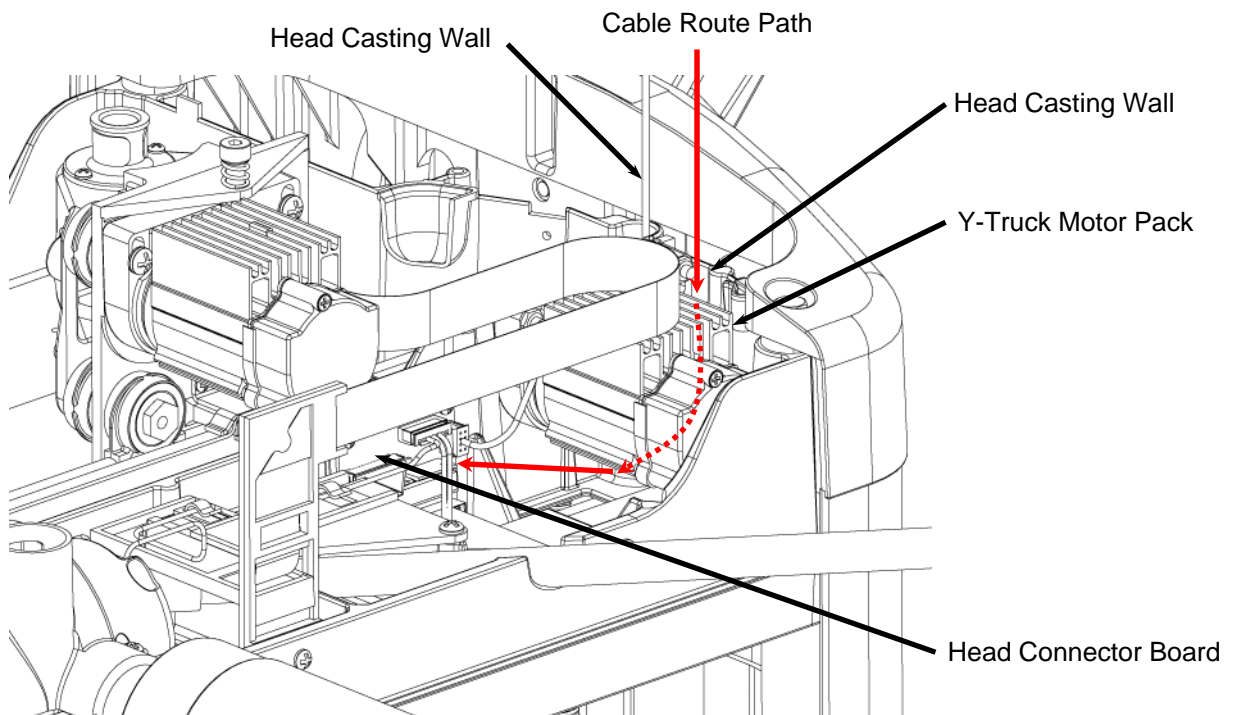

**FIGURE 18:** PLACEMENT OF THE BLOW DEFLECTOR - ISO
- a. Move the Y-truck all the way to the left side of the machine and make sure that the FFC cable does not drag on the Y-truck heatsink (See Figure 18). If the FFC cable is dragging bend it upwards so that it consistently clears the heatsink.